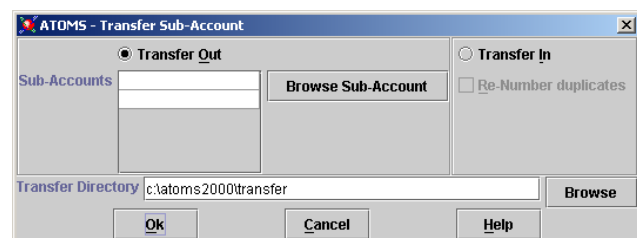

Figure 4-23. Transfer Sub-Account
- 2) After the Back-Up decision is made, the **Sub-Account Transfer** window appears (Figure 4-23). Select **Transfer Out**.
- 2) After the Back-Up decision is made, the Sub-Account Transfer window appears (Figure 4-23). Select **Transfer In**.